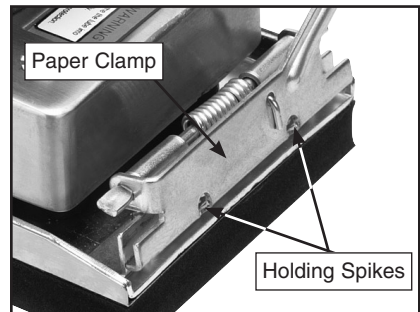

Figure 2. Attaching the sandpaper.
4. Attach the sandpaper by clamping it onto both ends of the sander with the paper clamps as, shown in **Figure 2**.
5. Firmly press the paper clamps until the holding spikes (**Figure 2**) push through the sandpaper.